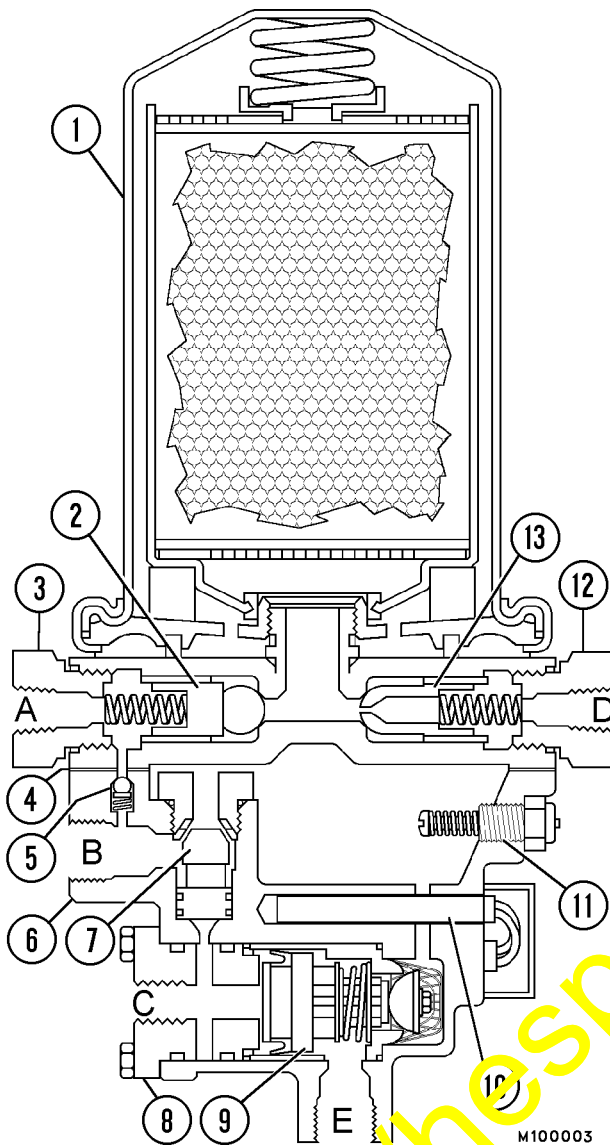

Figure 14. Turbo 2000 Air Dryer
Refer to Figure 14 for Valve Locations:
2. Using a strap wrench, turn the desiccant cartridge (1, Figure 14.) counterclockwise and remove it. Discard cartridge.
2. Remove the two fasteners that attach the unloader valve retainer (8, Figure 14). Remove the retainer.
3. Remove the unloader valve assembly (9) from the unloader port and discard.
5. Remove the three (3) O-rings from the retainer and discard.
7. Install on the retainer the two (2) thickest O-rings. Then install the third (thinner) O-ring.
3. Remove bleed valve nut (12, Figure 14).
3. Remove check valve nut (3, Figure 14).